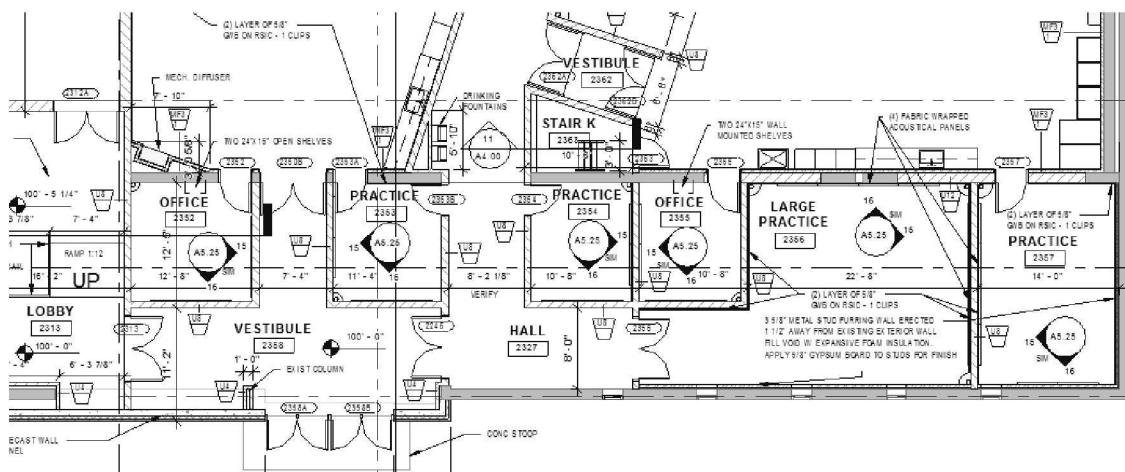

**FIGURE 12-2.8** Revit alert message
You will get an alert. Revit is telling you that the actual door will be deleted from the project model (Figure 12-2.8).
12. Click **OK** to delete the door (Figure 12-2.8).